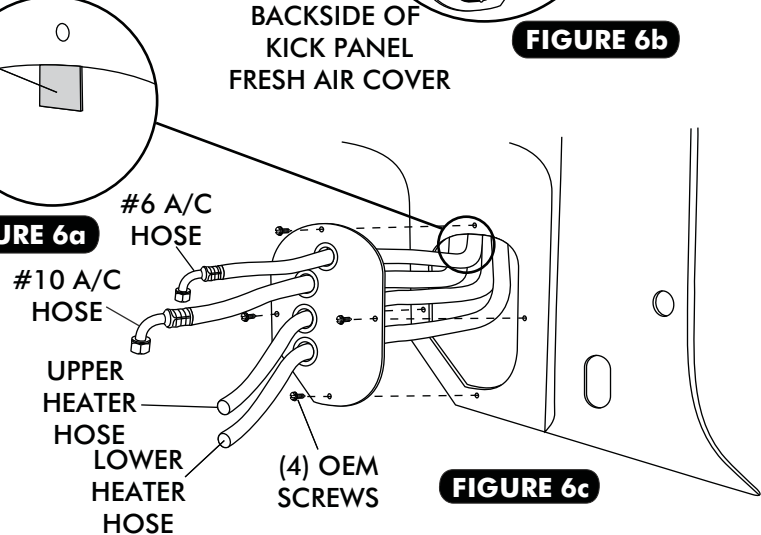

FIGURE 6c
- ☐ SECURE KICK PANEL COVER USING OEM SCREWS, AS SHOWN IN FIGURE 6c BELOW.